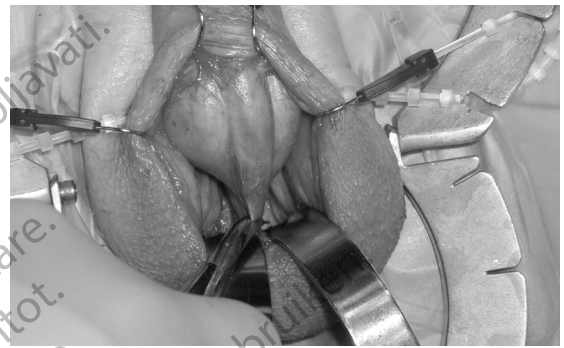

Figure 4-17.
6. The scrotal septum is then sharply dissected off the bulbar urethra. **(Figure 4-17)**